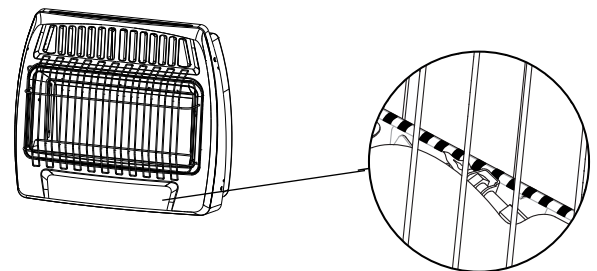

Fig. 24 - Pilot Flame Location
6. With control knob depressed, repeatedly push down the piezo ignitor "⚡" until the pilot lights. The pilot is visible centered below the main burner, behind the front grill. (See Fig. 24 on page 19)
7. Keep control depressed for (30) seconds after pilot lights. Release control knob.
6. With control knob depressed, repeatedly push down the piezo ignitor until the pilot lights. The pilot is visible centered below the main burner, behind the front grill. (See Fig. 24)